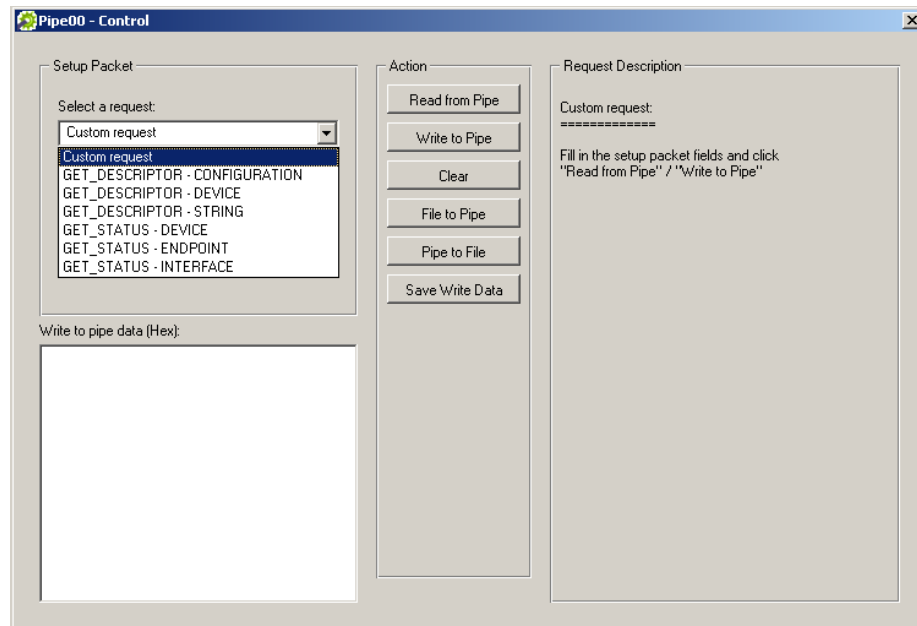

Figure 9.4: Request List
- For a standard USB request: select a USB request from the requests list, which includes requests such as **GET_DESCRIPTOR CONFIGURATION**, **GET_DESCRIPTOR DEVICE**, **GET_STATUS DEVICE**, etc. (see Figure 9.4). The description of the selected request will be displayed in the **Request Description** box on the right hand of the dialogue window.